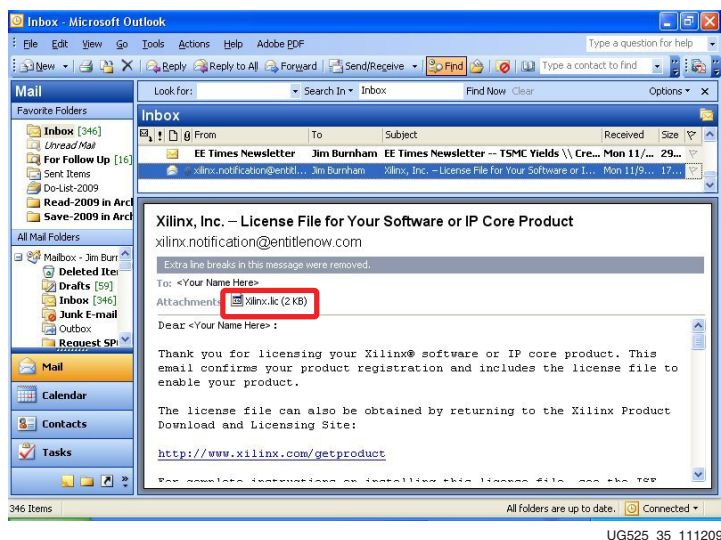

Figure 1-65: Xilinx License Notification E-mail
- When license generation is complete, the license will be emailed to you. Follow the instructions in the Xilinx License email to complete the licensing process (Figure 1-65).